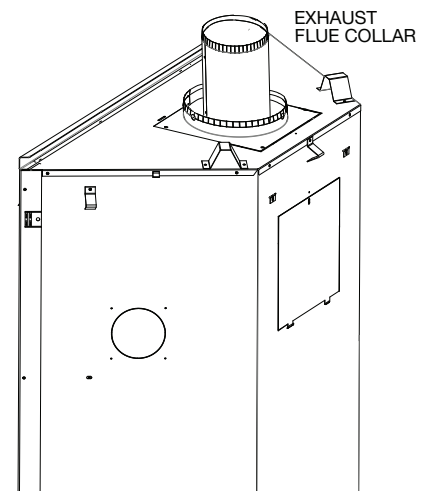

Fig. 3
- From inside the firebox, install the 4" (101.6mm) exhaust collar with gasket up through the top of the firebox, and secure with the the 4 hex head 3/4" black screws supplied in the manual baggie (**Fig. 3**).